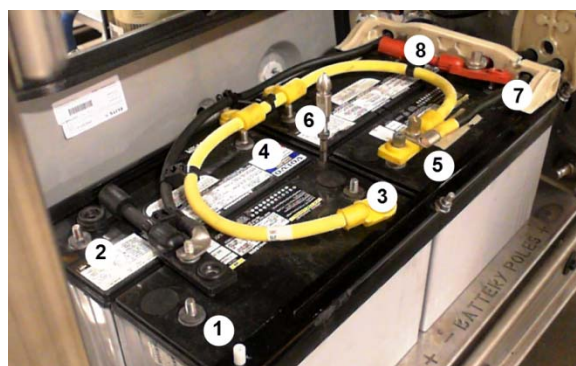

FIGURE 32: DISCONNECT 8 CABLE TERMINALS
3. Using a 9/16 hex socket box, disconnect the eight (8) battery cable terminals (FIGURE 32).